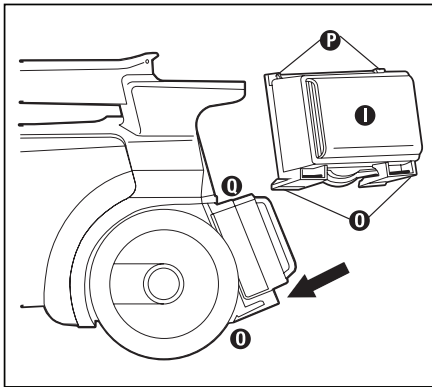

Fig. 14
Step 1: Insert upper filter corner tabs ③ firmly under rear housing tabs ④ (Fig. 14).
Step 2: Pivot filter ① down until bottom clips ② on filter click securely into place on the cleaner (Fig. 14).